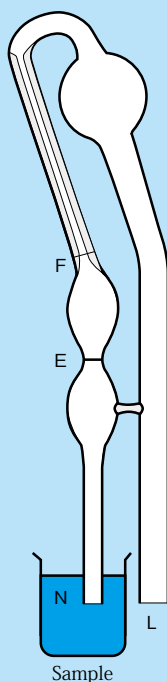

Fig. 2
- (1) As shown in Fig. 2, insert tube N into the sample with the viscometer upside down. Apply suction through tube L so that the sample is drawn up to marked line F.